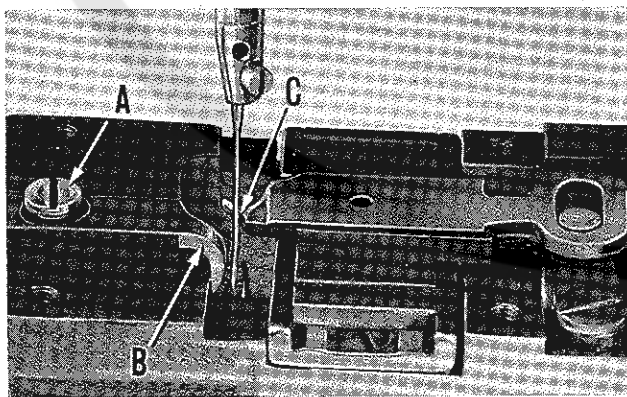

Fig. 8
NOTE: Fig. 8 shows the machine with needle plate, feed plate, and button clamp removed. This has been done for clarity only. These parts need not be removed to make the adjustments.
Loosen needle guard clamp screw (A, Fig. 8) and slide needle guard (B) forward. Insert a screw driver behind the loop positioning finger (C) and pull the finger forward. There should be only the slightest amount of clearance between the finger and needle, approximately .002 inch.
Rotate the pulley in operating direction until the lower timing line on the needle bar is even with the lower edge of the needle bar bushing. Rotate the sleeve (B) so that the point of the hook is at the center of the needle on the back side and tighten both screws (A) in the sleeve. Loosen hook collar clamp screw (E), and slide hook (G) so that there is the smallest amount of clearance between its point and the needle, and retighten hook collar clamp screw. Loosen set screw (C) in cam (D), and rotate cam so that its timing line coincides with the timing line on the sleeve (F). Tighten screws in cam, making sure that the cam is against the sleeve. Turn the pulley in operating direction until the needle bar is at its lowest position, and slide the needle guard (B, Fig. 8) in the direction of the needle until there is a clearance of about .002 inch between it and the needle. Retighten clamp screw (A) securely.